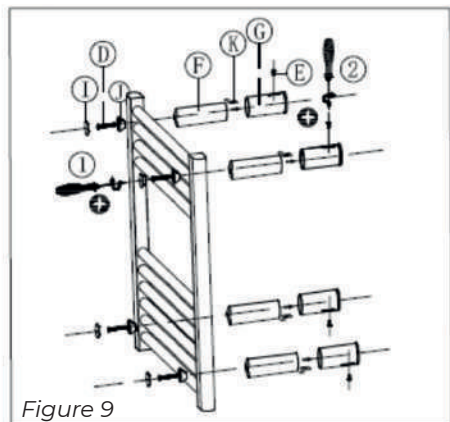

Figure 9
8. Slide the square nuts into the designated slots of the inner wall brackets(Figure 9, pos. K).
9. Attach the four inner wall brackets(Figure 9, pos. F) to the outer wall brackets with small screws (Figure 9, pos. 2) using a Phillips screwdriver.
11. Screw and tighten the device with four large screws (Figure 9, pos. D) to the wall bracket (Figure 9, pos. J) using a Phillips screwdriver (Figure 9, pos. 1).
12. Place the four sealing caps(Figure 9, pos. I).